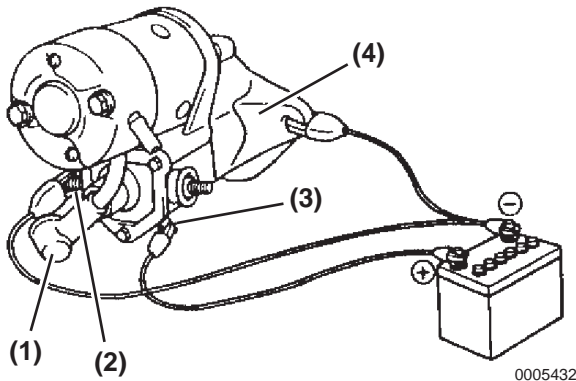

Figure 10-44
1. Disconnect the field coil lead wire (Figure 10-44, (1)) from terminal C (Figure 10-44, (2)).
2. Connect the battery (+) to the magnetic switch terminal 50 (Figure 10-44, (3)). Connect the battery negative (-) lead to the grounded housing (Figure 10-44, (4)). Check that the clutch pinion gear moves outwards. If the clutch pinion gear does not move, replace the magnetic switch assembly.